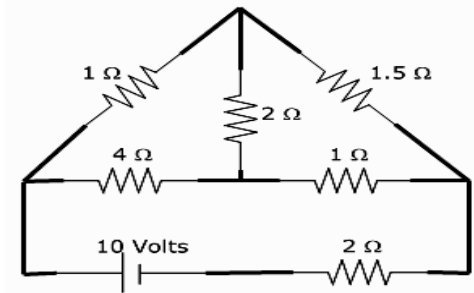

Figure 1
- Determine the value of the source current for the circuits shown in the Figure1, using delta star transformation. [7M]